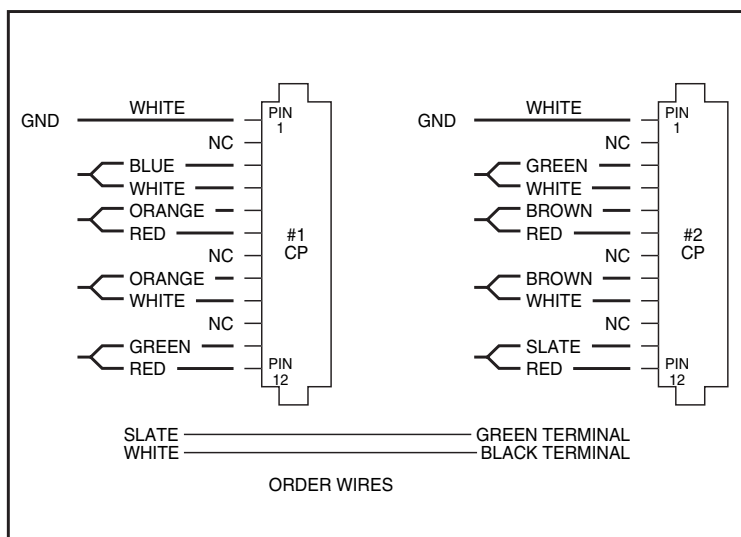

Figure 6. Repeater Housing Wiring Diagram Label
- Connect the wiring from the cable stub base to the appropriate matching slot configuration. See Figure 6 for the Repeater Housing wiring diagram.